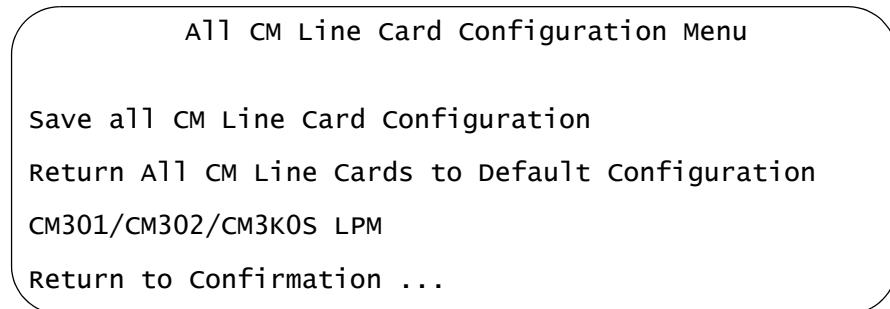

Figure 76. All CM Line Card Configurations Menu
2. From the Configuration menu, select **All CM Line Card Configurations** to display the menu in Figure 76.